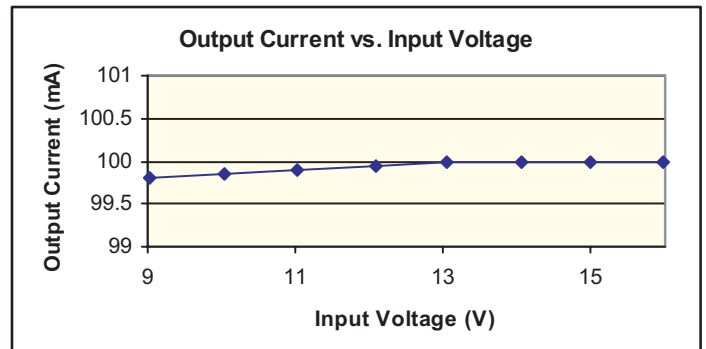

Fig. 3. Output Current vs. Input Voltage
2. Current Regulation: Figs. 3 and 4 show the output current regulation vs. input voltage and load voltage respectively. The total current regulation (line and load combined) is found to be less than 1%.